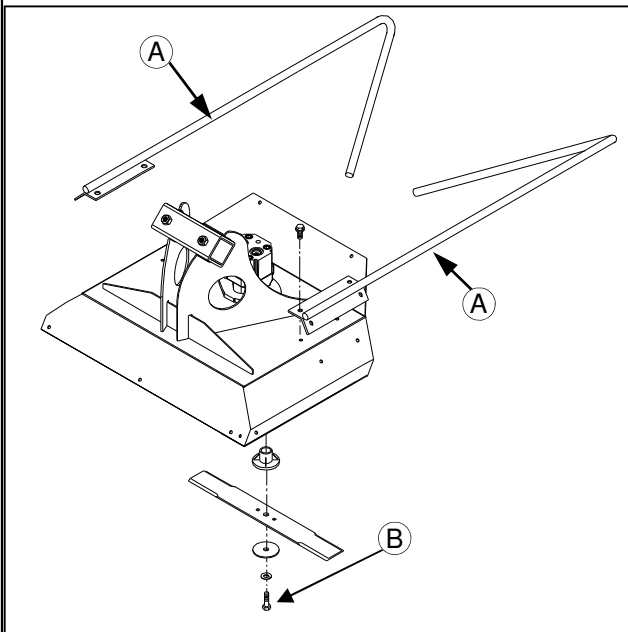

FIG 76-2
2. Install the stalk guides to the cutter head assembly (fig. 76-2, item A). Refer to the Hagie STS Combo Parts Manual for the proper hardware.
3. Check and tighten, if necessary, the retaining bolt (fig 76-2, item B).